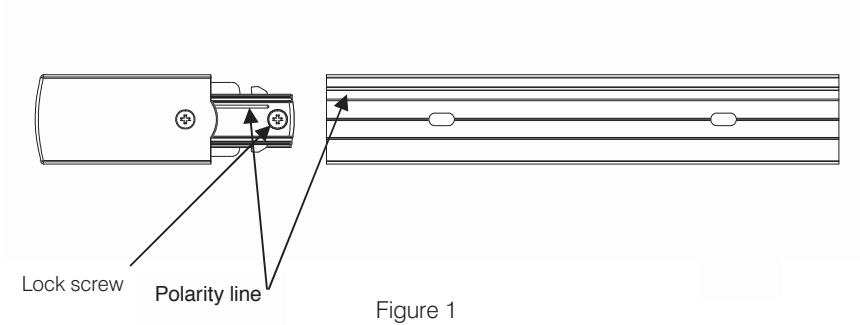

Figure 1
- 1.2) Insert feed connector into end(s) of track, matching polarity lines on connector and track (see Figure 1 below)